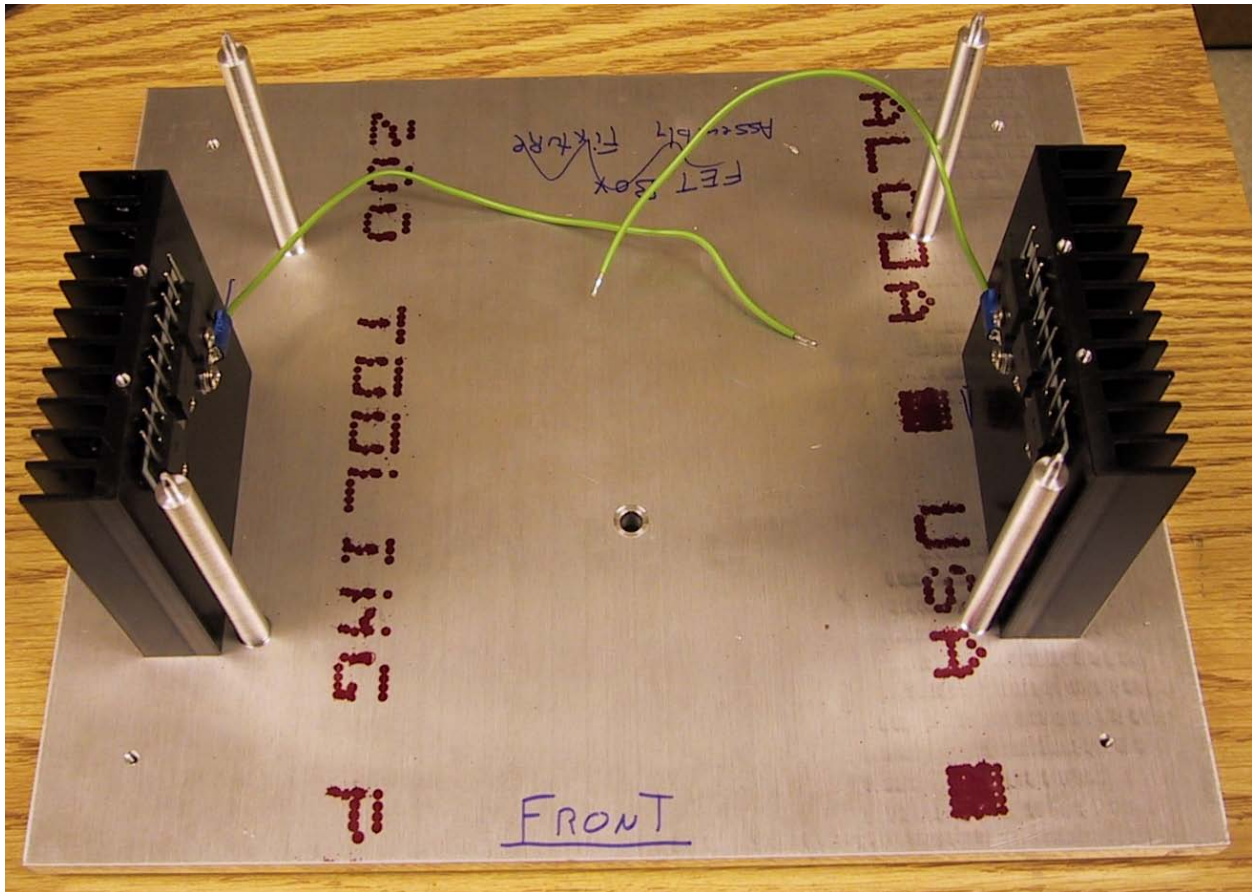
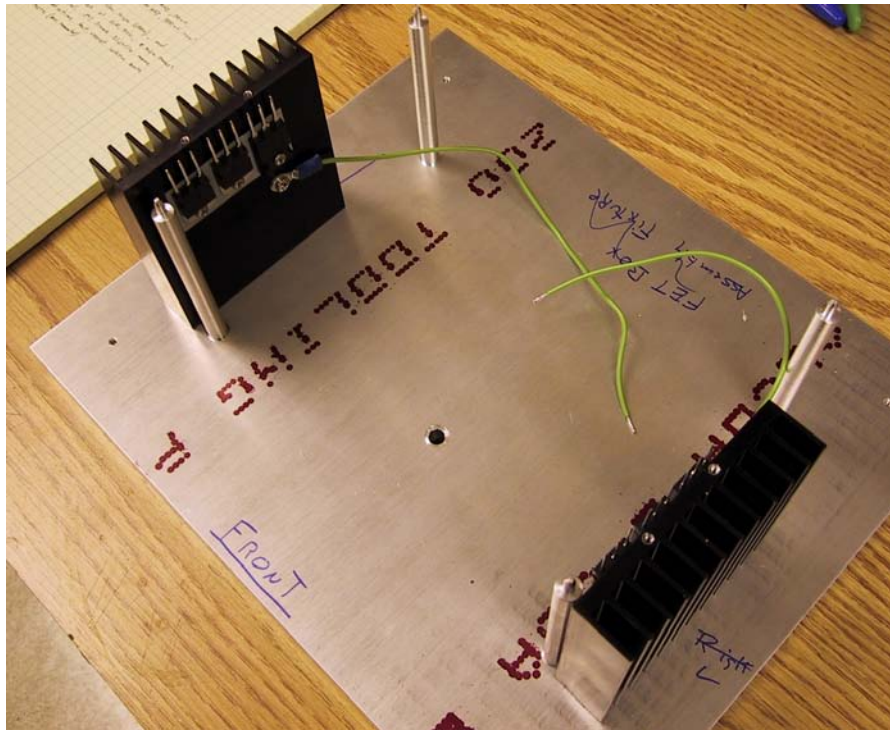
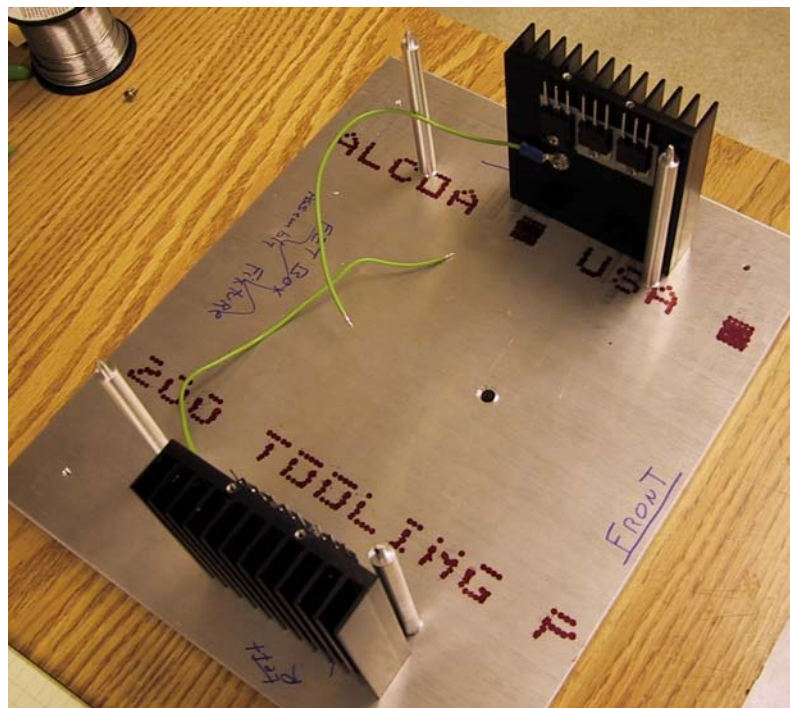

Figure 18: Heatsink assembly fixture
Figure 19: Heatsink assembly fixture - left side
Figure 20: Heatsink assembly fixture -right side
3. Use solder jig to hold pieces together as shown in Figure 18. NOTE: JIG holds everything upside down. Position right heatsink subassemblies on left side with green wire pointing to back. As shown in Figure 19. Position left heatsink subassemblies on right side with green wire pointing to back as shown in Figure 20.